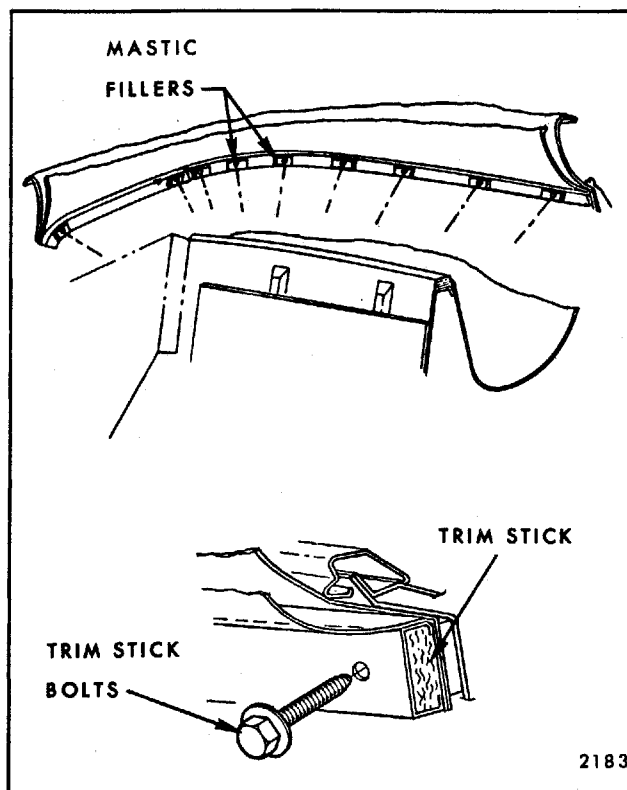

Fig. 6-55—Checking Trim Stick Fillers
9. Inspect mastic type trim stick fillers at body below pinchweld for sufficient seal at bolt holes (Fig. 6-55).